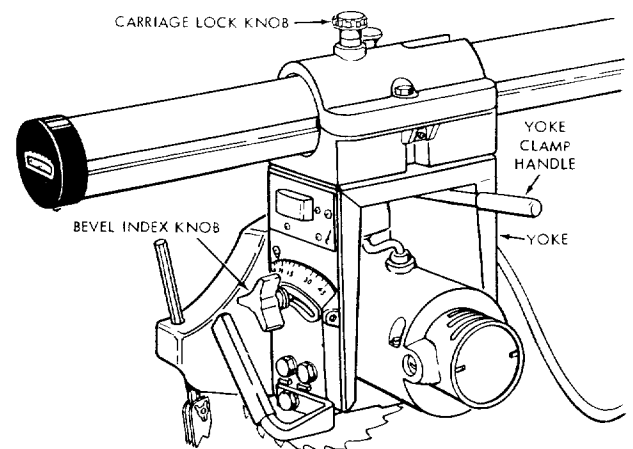

Figure 33
- (2) Loosen the yoke clamp handle (figure 33) and rotate the yoke enough to eliminate "heel". While holding the yoke securely to keep it from moving, tighten the yoke clamp handle.